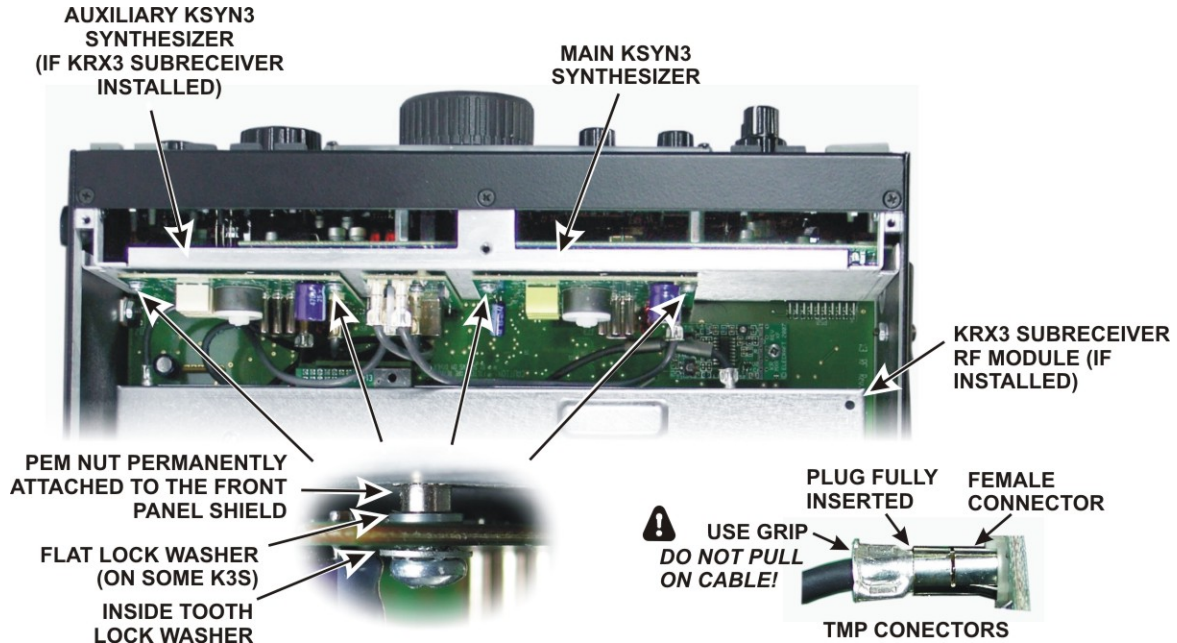
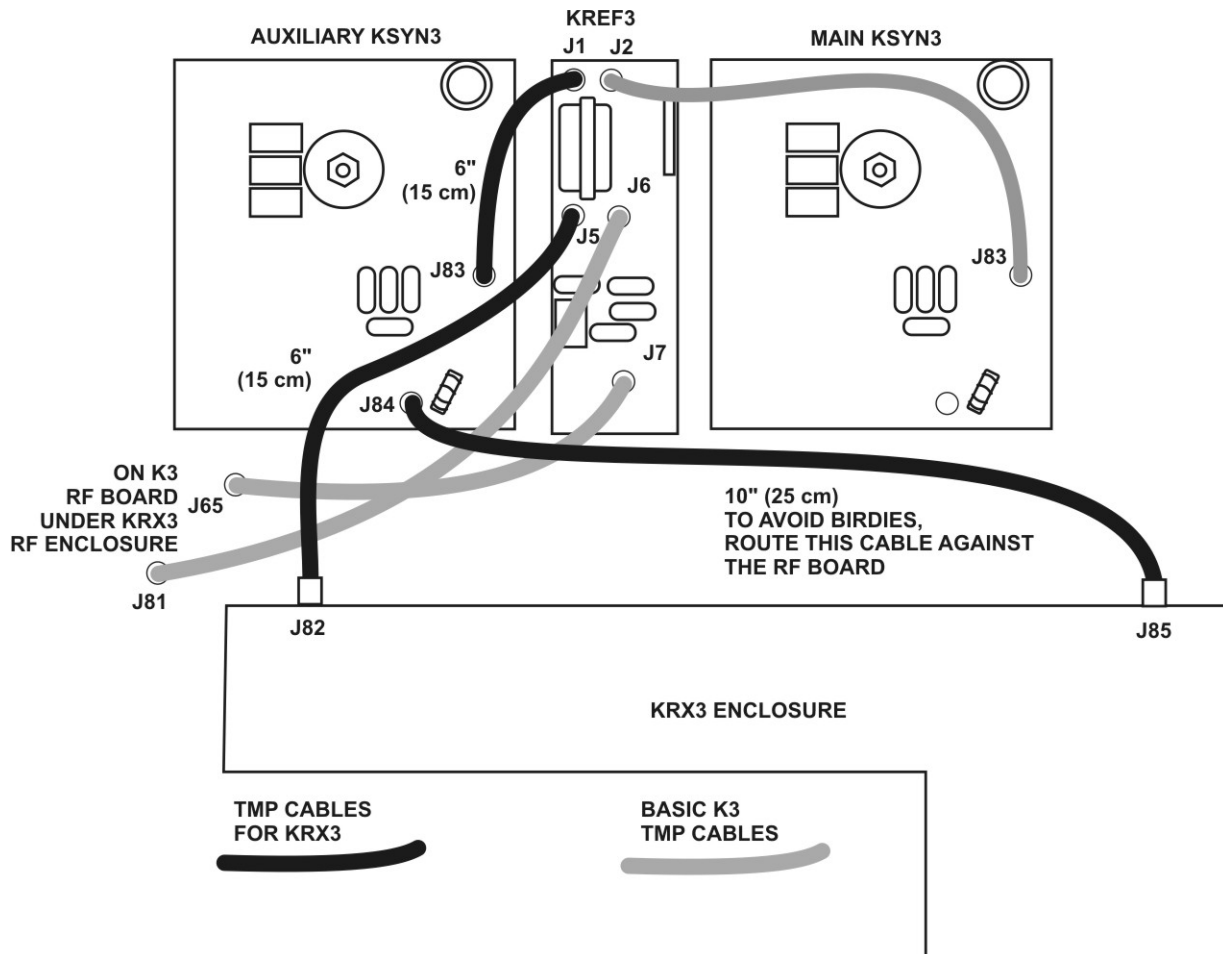

Figure 2. Removing the KSYN3 Boards.
Figure 4. TMP Cable Connections
□ Remove the KSYN3 board(s) shown in Figure 2. Each board plugs into a connector on the RF board that covers the bottom of the K3 and is held in place with two screws at the top of each board. Once the screws are loosened, you can tip the board away from the front panel shield to remove the split lock washers from the screws (if used). Unplug the TMP coaxial cables as you lift each board out. The TMP connectors are held by friction. Pull only on the metal ears of the TMP plug (see Figure 2). Do not pull on the coaxial cable itself.
□ Replace the KSYN3 board(s) using the hardware shown in Figure 2 and reconnect the TMP cables as shown in Figure 4. If the split lock washers were used between the boards and the PEM nuts, be sure to replace them. They prevent shorts between the back of the KSYN3 board and the shield. This is most easily done as follows: